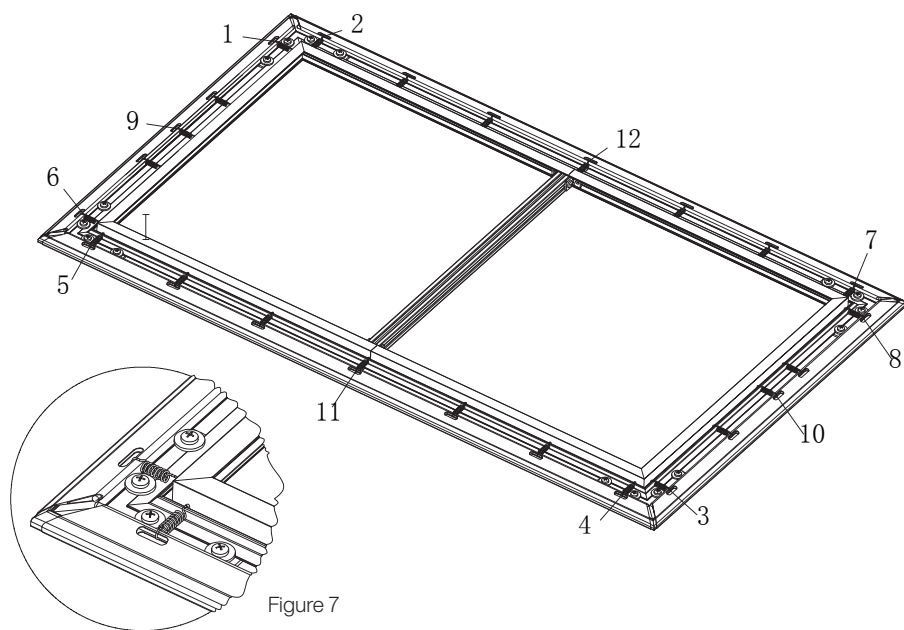

Figure 7
4.3 Hang the curtain on the frame with the tension spring. Please follow the following sequence for hooking tension springs, first install the four corner springs in the order of 1~8; then hang the middle springs 9~12, and finally spring from the middle, and install the other springs symmetrically in turn (Figure 7)